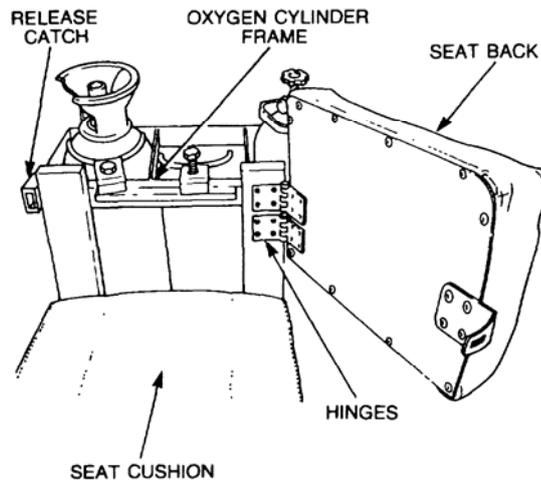

Figure 38 Seat Back Removal
- c. Remove the eight screws securing the seat back hinges to the storage area frame (refer Figure 38).
- e. Position the seat back on to the frame (refer Figure 38) and install the eight screws.